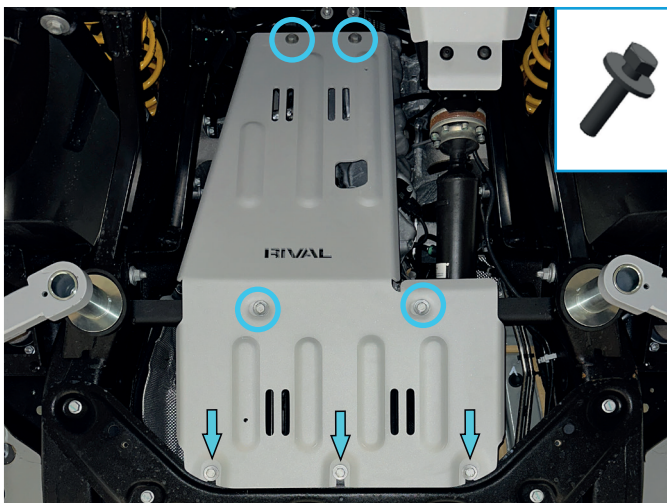

Fig. 7
6. Slide the engine skid plate (item 1) on pre-installed bolts M10x30 from step 5. Fix skid plate to bracket and beam using bolts M10x30 and washers 10 (item B, E) (Fig. 7).